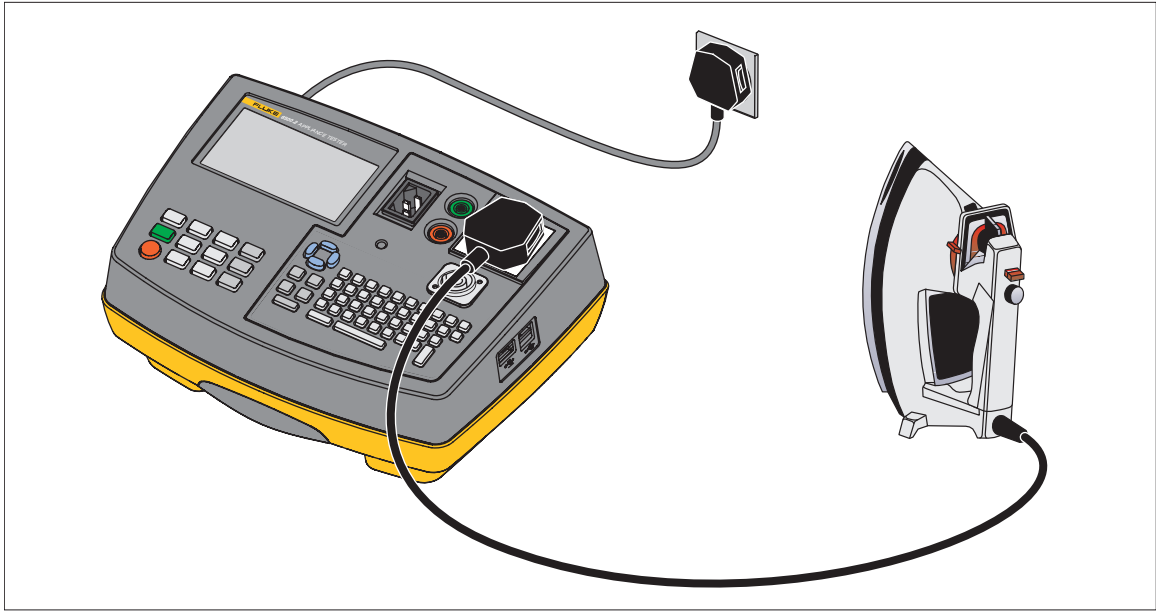
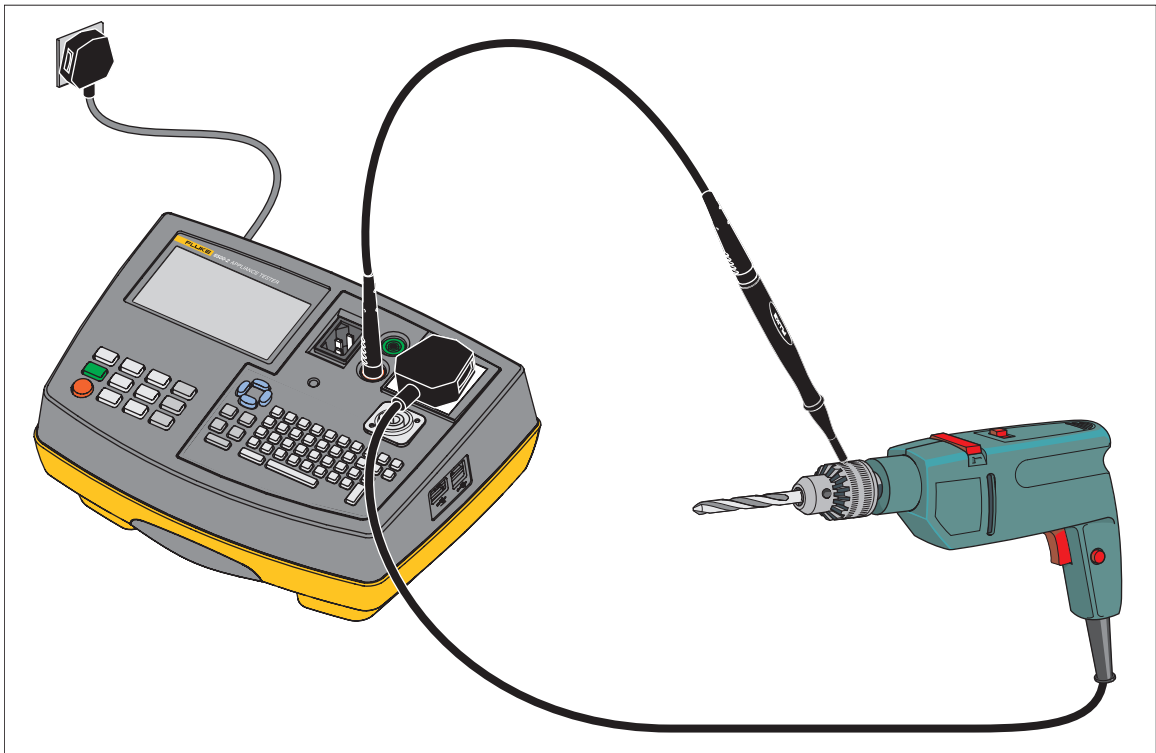

Figure 5. Substitute Leakage Test Connections Class I
Figure 6. Substitute Leakage Test Connections Class II
- Connect the appliance and the test probe as indicated on the display, see Figure 5 and Figure 6.